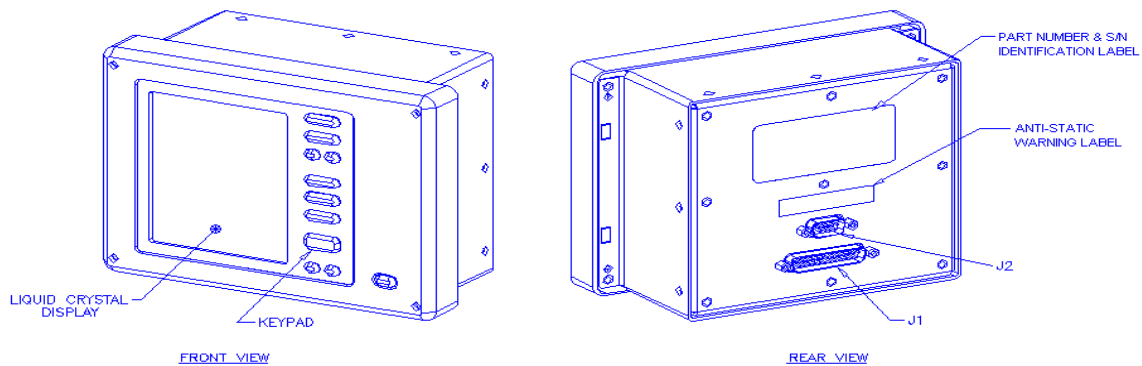

Figure 1. Illustration of PBS600 and Connector Locations
- (1) + 28 VDC power and aircraft ground
- (2) Aircraft PA system
- (3) Cockpit lighting (optional)
- (4) Pilot/Co-Pilot microphone key (optional)
- (5) Discrete trigger lines, e.g. Fasten Seat Belt Sign (optional)
- (6) Relay driver to mute stereos, etc. (optional)
- (7) Cockpit status indicator (optional)
C. See Figure 1. for the location of the PBS600 connector locations. The Generic Aircraft Interface Diagram, PBS600-6 is provided in APPENDIX A.